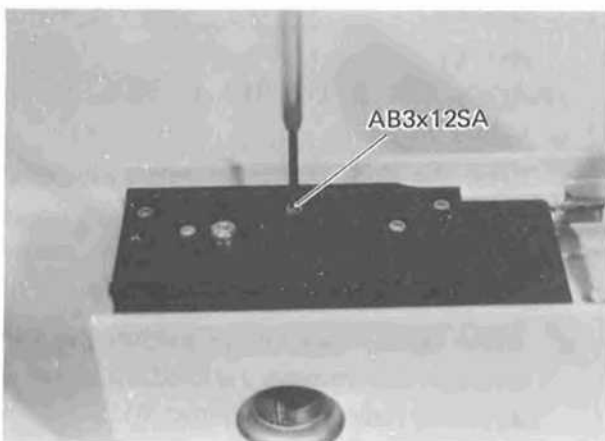

Fig. 4-9
- 4-1-9 Fix Ball Guide AB024800 and Inner Ball Guide AB024700 by tightening four Screws AB3x12SA. (See Fig. 4-9.)